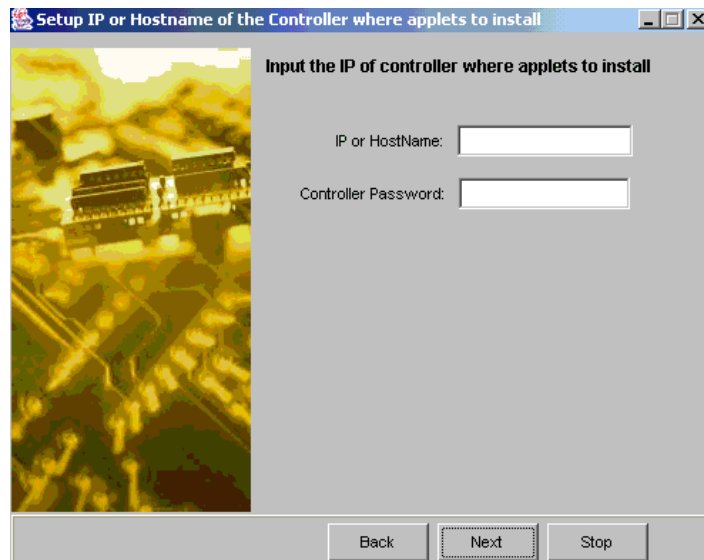

Figure 3-13: Input IP and Controller Password
Step 1. As shown in *Figure 3-13* above, enter the IP address or the host name of the controller/subsystem and the controller password in their respective fields. The default for the controller/subsystem IP or password is blank. The preset IP and password should have been configured along with other configuration utilities before proceeding with the RAIDWatch installation.
Step 2. If the *Next* button from *Figure 3-13* was selected, the Install Active window shown in *Figure 3-14* will appear. If you wish to stop the installation procedure, then click the *Cancel* button. If you wish to continue installing the Applet components, allow the installation shield to continue through the rest of the procedure.
Step 4. If you wish to immediately access the RAIDWatch manager, open a web browser and type in the IP address that you used in *Figure 3-13*.
where **`www.xxx.yyy.zzz`** is the IP address entered in *Figure 3-13*.